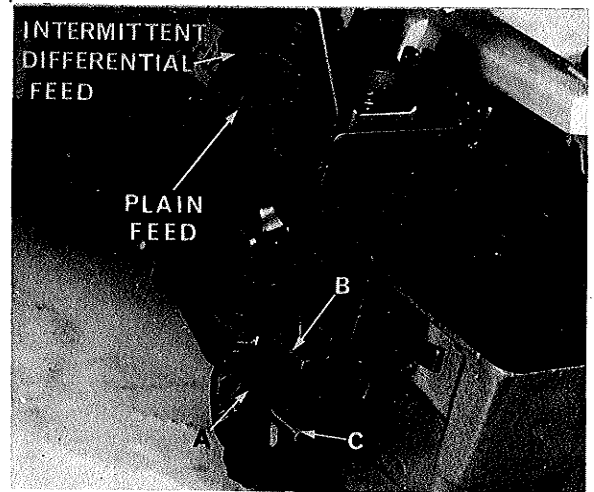

Fig. 16A
On Styles 39500 QS, QT, RD, RL, RT, TM and TT the differential feed action is also controlled by the movement of the differential control lever (A, Fig. 16A) between an upper (B) and a lower stop (C), but on these machines both stops are moved by an adjusting thumbscrew rod (Fig. 16A).